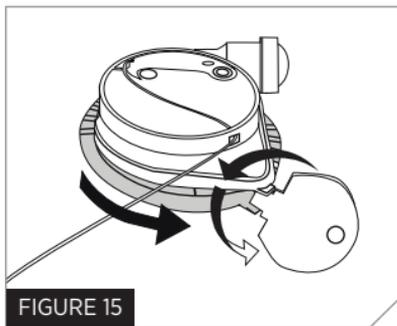

FIGURE 15
4. Turn the key counter clockwise (if you're right handed, this is toward you). As you turn, you are creating a wedge to open up space between yellow and black – the black locking ring will turn left, opposite the yellow piece (Fig. 15).